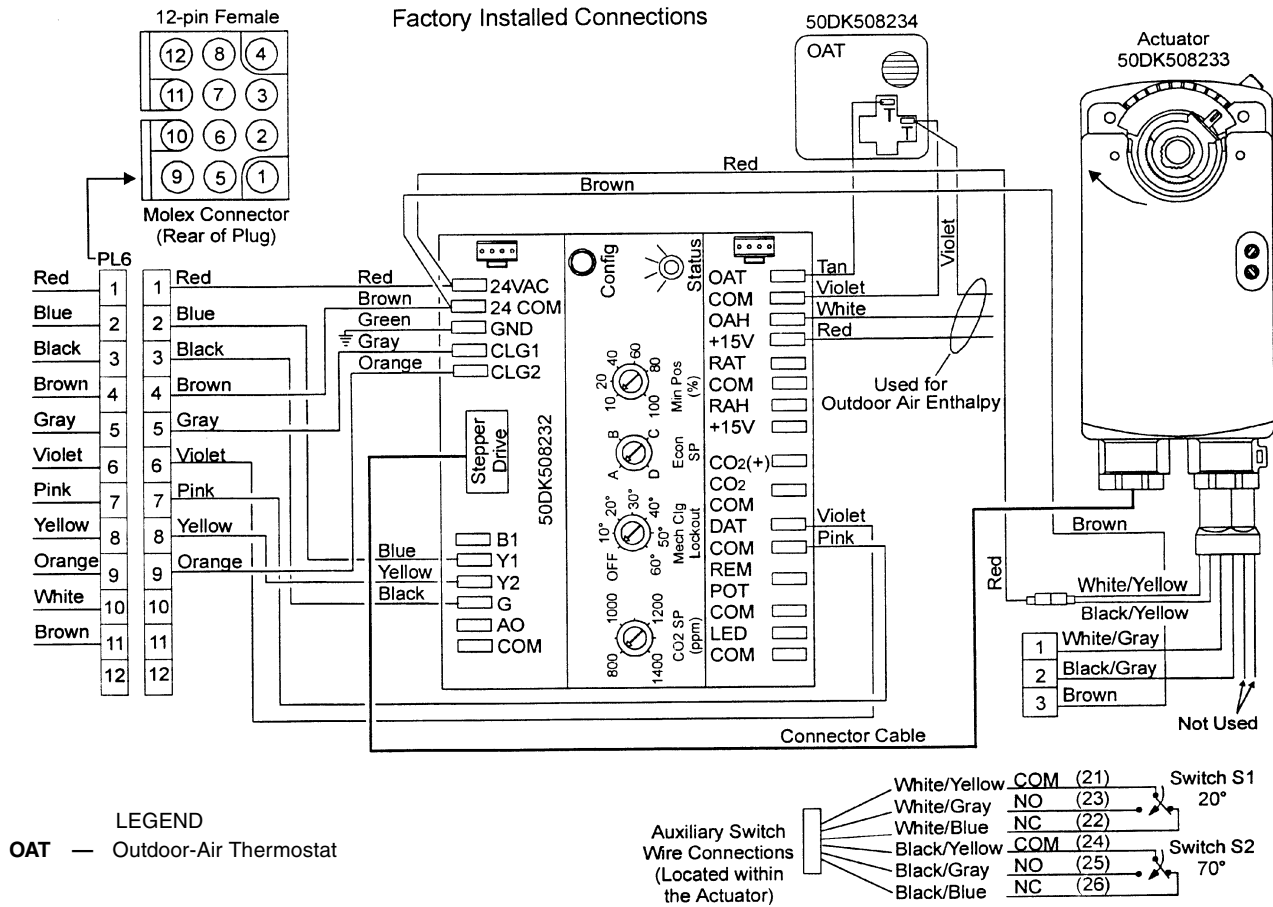
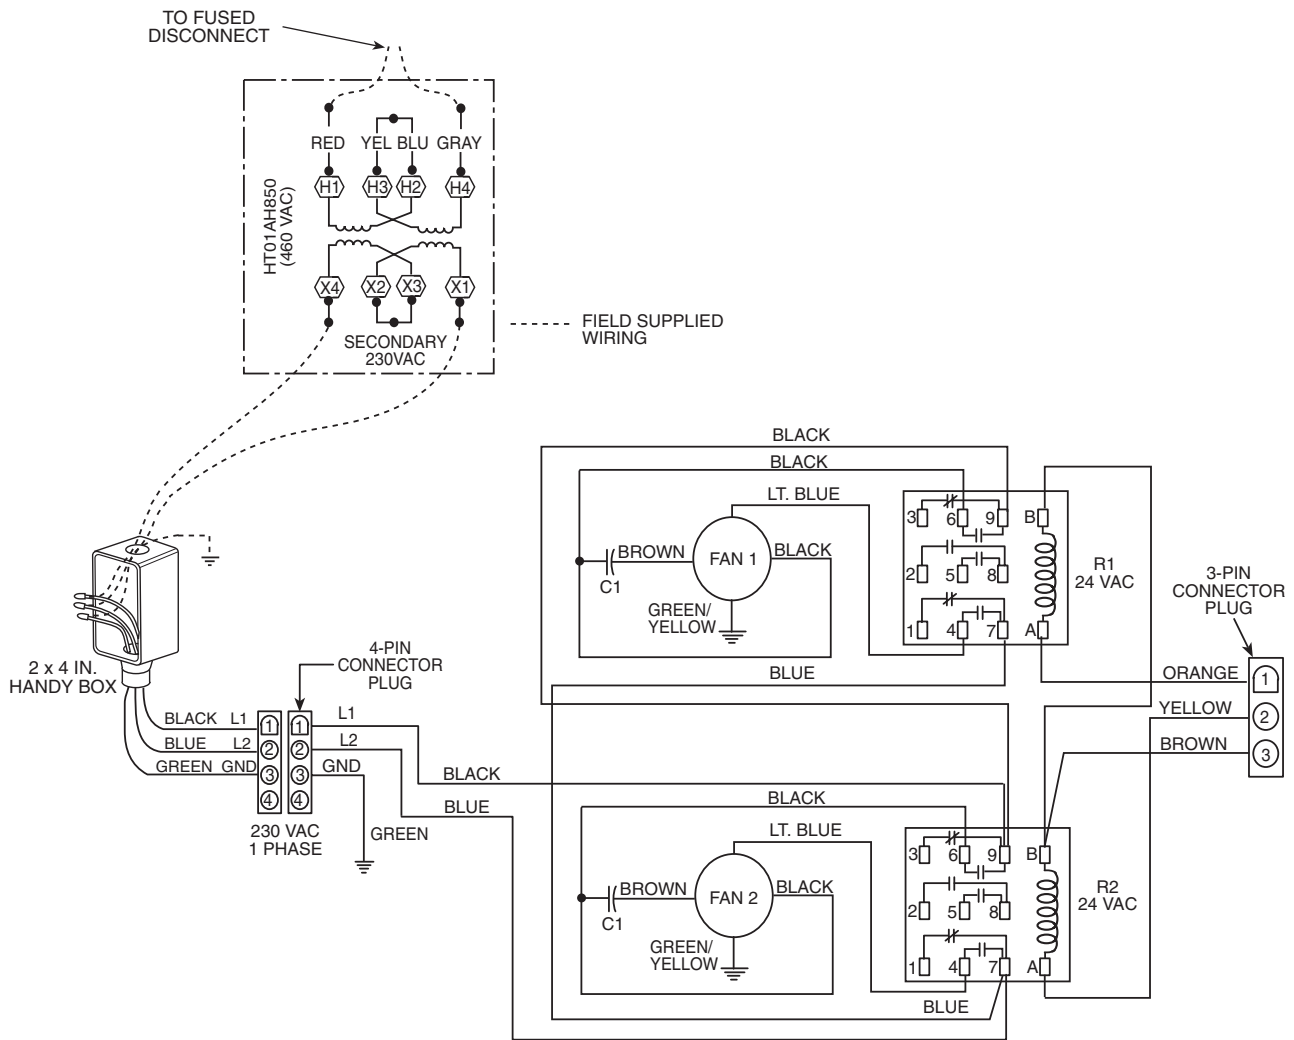

Fig. 36 — EconoMi\$er Wiring
Fig. 38 — Wiring Diagram for Power Exhaust System
9. Remove and store the 12-pin jumper plug from the unit wiring harness located in the upper left corner and insert the EconoMi\$er plug into the unit wiring harness. Refer to wiring diagram Fig. 36 and 37. Also refer to Fig. 38 if installing an accessory power exhaust.